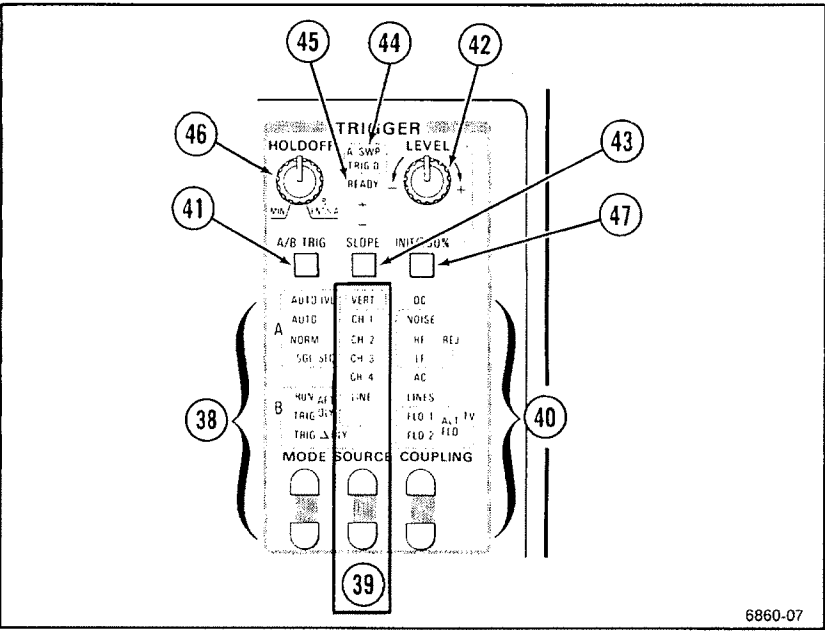

Figure 5-6. Trigger controls and indicators.
Refer to Figure 5-6 for the location of items 38 through 47.